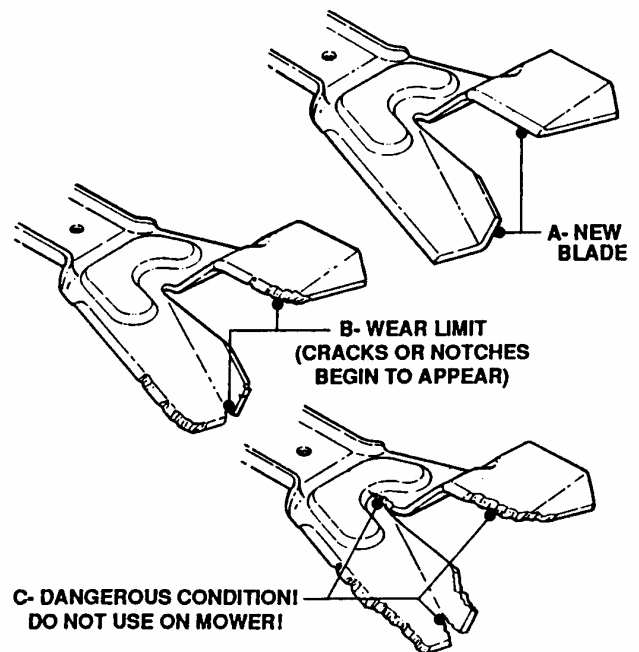

FIGURE 52
<p>Never use a blade that shows signs of excessive wear or damage. Refer to Figure 52 for standard blade wear limits.</p>
The Ninja™ recycling blade requires more frequent service intervals than standard blades. Check the Ninja™ recycling blade for excessive wear or damage after every use. See Figure 52.
Inspect the Ninja™ blade for excessive wear or damage. See Figure 52 for Ninja™ blade wear limits.
*Never use a blade that shows signs of excessive wear or damage. Refer to Figure 52 for Ninja™ blade wear limits.*